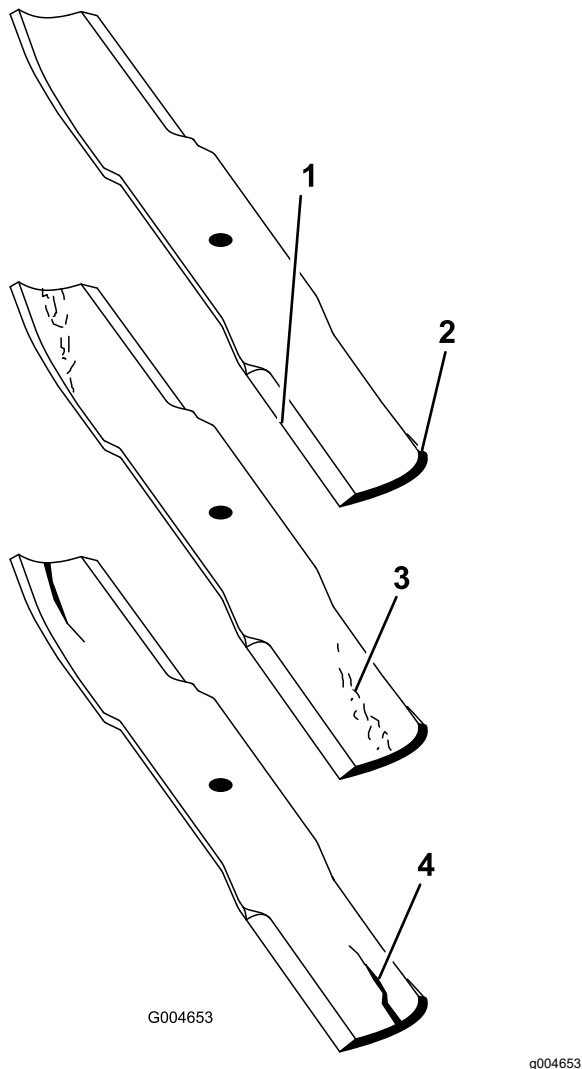

Figure 94
2. Examine the cutting ends of the blade carefully, especially where the flat and curved parts of the blade meet (Figure 94).
Note: Because sand and abrasive material can wear away the metal that connects the flat and curved parts of the blade, check the blade before using the mower. If you notice wear (Figure 94), replace the blade.